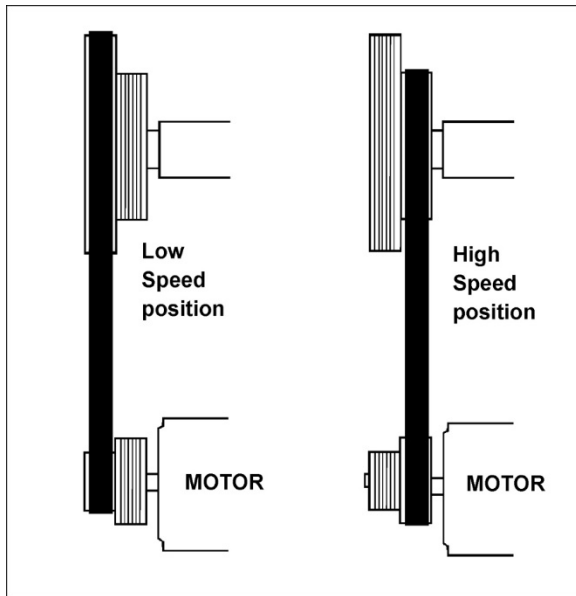

Figure 7-22
2. Release belt tension by pulling handle (B) up, then tighten lock handle (A) to maintain raised position.
4. Refer to Figure 7-22: